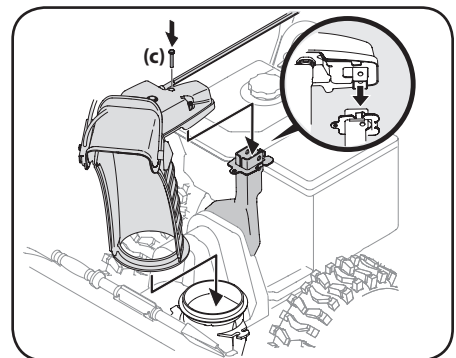

Figure 2-15
3. Place chute onto chute base and ensure chute control rod is positioned under handle panel. Install hex screw (c) removed in Step 1, but do not secure with wing nut at this time. See Figure 2-15.